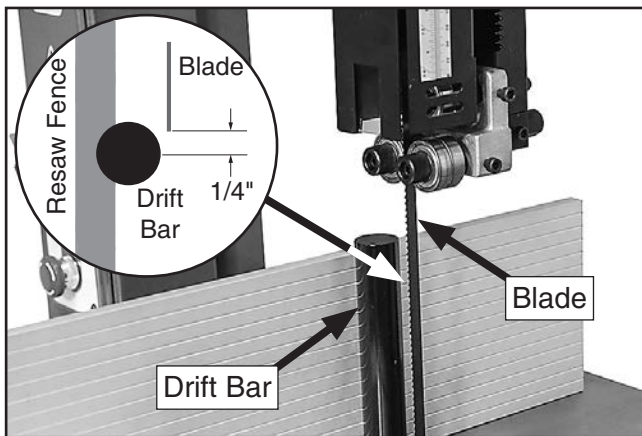

Figure 84. Resaw fence with drift bar installed.
3. Move resaw fence up to blade so center of drift bar is set approximately $\frac{1}{4}$ " forward of blade teeth (see **Figure 84**).